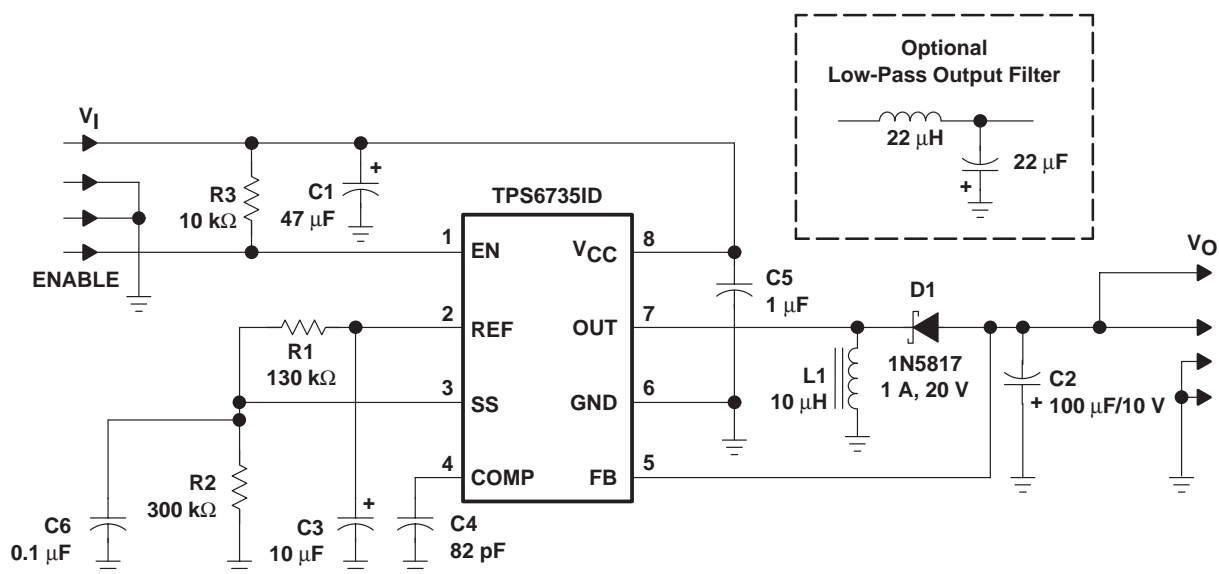

Figure 15. Application Circuit
**electrical characteristics over recommended operating free-air temperature range,  $V_{CC} = 5\text{ V}$ ,  $I_O = 0$ ,  $EN = 5\text{ V}$ , typical values are at  $T_A = 25^\circ\text{C}$  (unless otherwise noted) (refer to Figure 15)**
**performance characteristics over recommended operating free-air temperature range, typical values at  $T_A = 25^\circ\text{C}$  (unless otherwise noted) (refer to Figure 15)**
The TPS6735 operates in the voltage-inverting circuit, shown in Figure 15, which can generate a  $-5\text{-V}$  output. The circuit is ideal for applications that require a negative polarity voltage on the output with respect to the input ground, and for energy management systems. The TPS6735 can be placed in a shutdown mode ( $1\text{-}\mu\text{A}$  quiescent current) by forcing EN low.
A low-pass filter may be added to the converter output to reduce the output voltage ripple (see Figure 15). The LC filter has a cutoff frequency of 7.2 kHz. The inductor filter must have a low resistance to avoid large output voltage drops. The output voltage ripple is reduced to 5 mV when the LC output filter is used. FB must be connected to the output node before the connection for the low-pass filter.